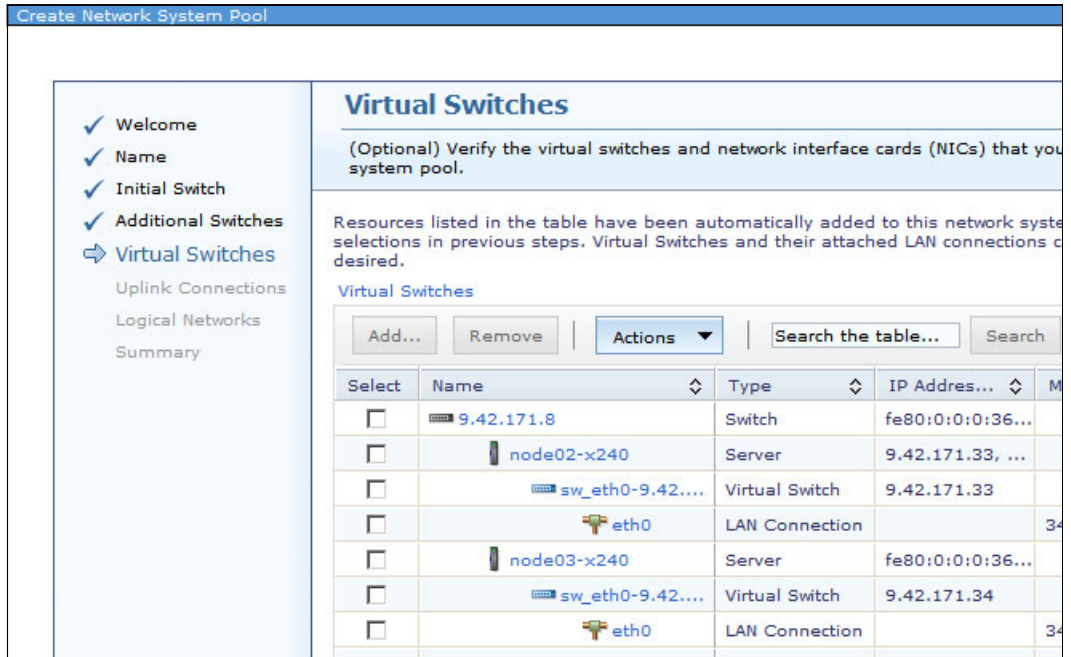

Figure 9-83 Create Network System Pool: Virtual Switches
7. The wizard automatically adds virtual switches to the pool, as shown in Figure 9-83 on page 362. Click **Next**.